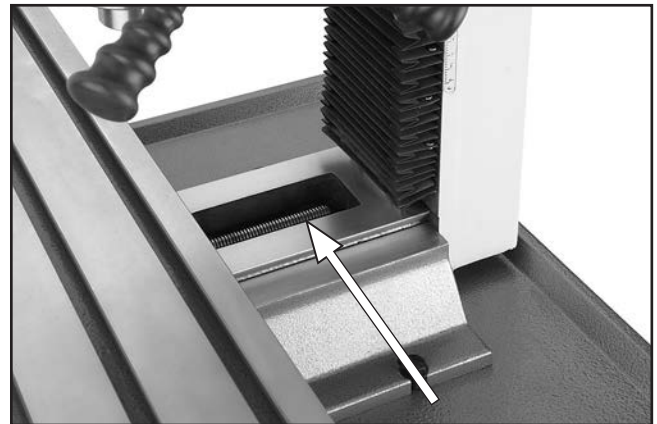

Figure 49. Cross travel leadscrew location.
6. Lift or remove the rubber way cover, then use mineral spirits and a brush to clean as much of the existing grease and debris as possible off of the cross travel leadscrew shown in **Figure 49**. Allow leadscrew to dry.